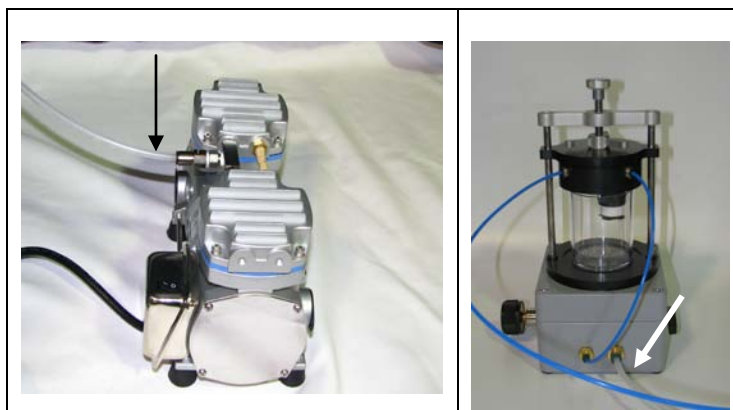

Figure 11. Connection of pump to trap
- 9.3.2 Connect 1/4" poly tubing from pump to trap. See Figure 11. Trap should be placed on a flat relatively level surface. It is recommended that the trap be placed in a visible, readily accessible location. This location does not have to be on the same surface as the LabRAM. If desired or required the vacuum trap can be located remotely up to 20 feet from the